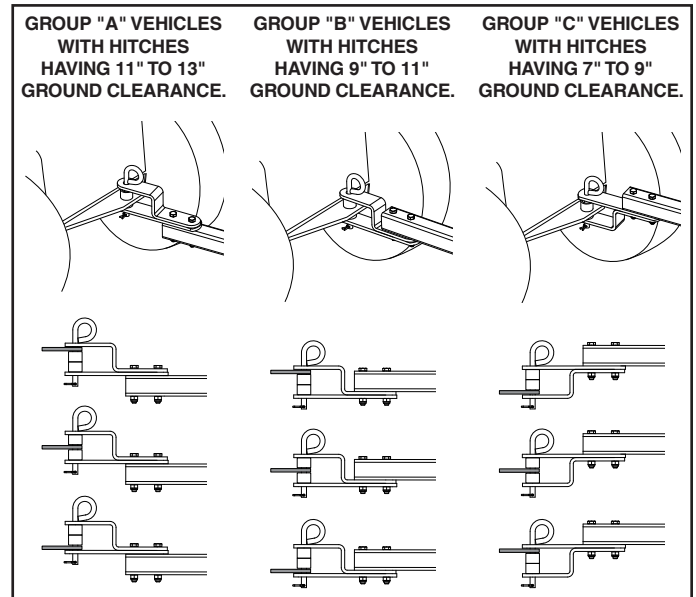

FIGURE 20
3. Attach the sweeper hitch to the tractor hitch, making adjustments to the hitch brackets depending on the drawbar height of your tractor as shown in GROUP A, GROUP B and GROUP C diagrams in figure 20.
4. Arrange the spacers into one of the three possible combinations as shown below in the GROUP A, GROUP B and GROUP C diagrams in figure 20.